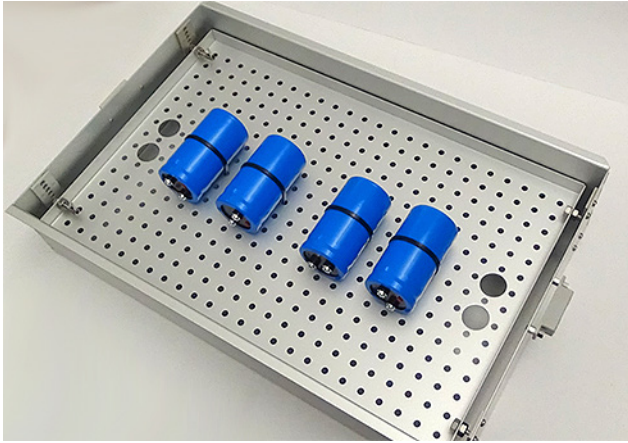

Figure 10.3m: Quadrant boxes with adjustable mounting trays hold large specimens.
- For best UV exposure, position specimens away from the edges of the box. See Figure 10.3m.